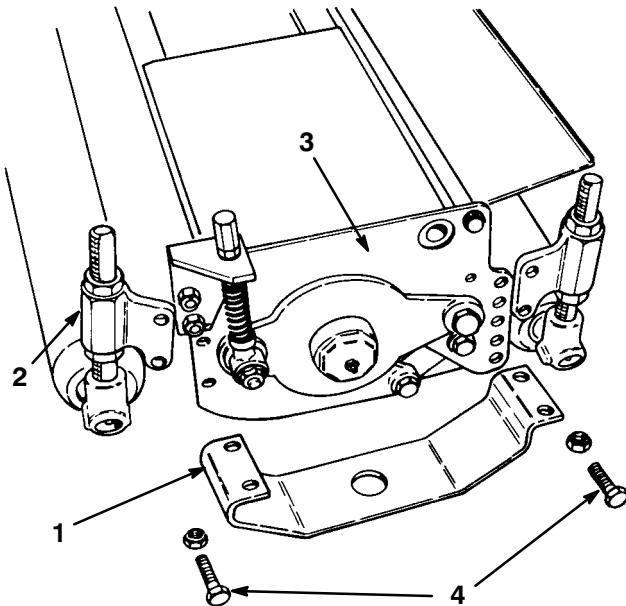
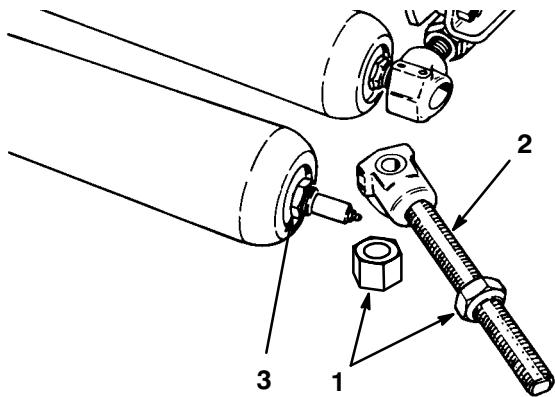

Figure 33
Figure 34
1. Remove the fasteners securing the guard and roller adjustment housing to the side plate (Fig. 33) or unscrew the upper cone nut and drop the threaded rod out of the adjustment housing (Fig. 34).
- 2. The threaded rod and collar assembly can be removed from the roller by sliding it off the shaft at both ends (Fig. 34).
Important When assembling a new roller to the cutting unit, mount the roller so that the roller shaft locknut is on the right side of the cutting unit (Fig. 34) (as viewed by the operator sitting on the seat of the machine). This prevents the locknut from loosening during operation.